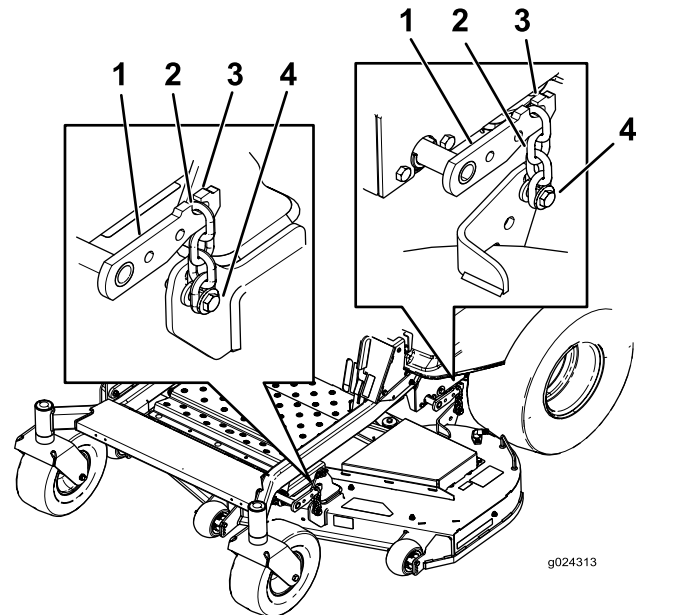

Figure 75
3. Remove the chains from the hooks on the deck-lift arms (Figure 75).
6. Lift the rear of the mower deck and attach the chains to the rear lift arms (Figure 75).
7. Attach the front chains to the front lift arms (Figure 75).